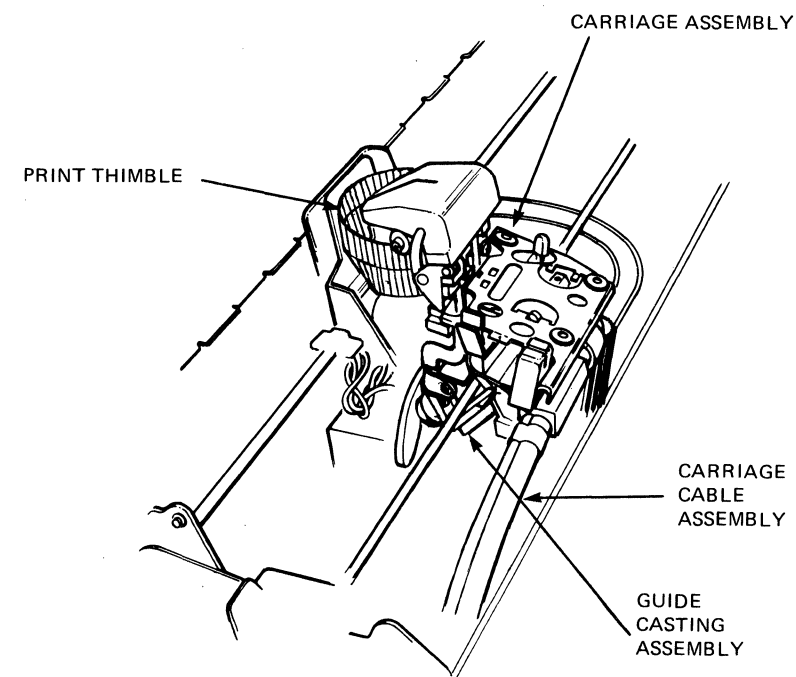

Figure 4-12 Carriage Location
- e. Disconnect the carriage assembly connector (CN4) from the G9JHM PCB (see Figure 4-12).